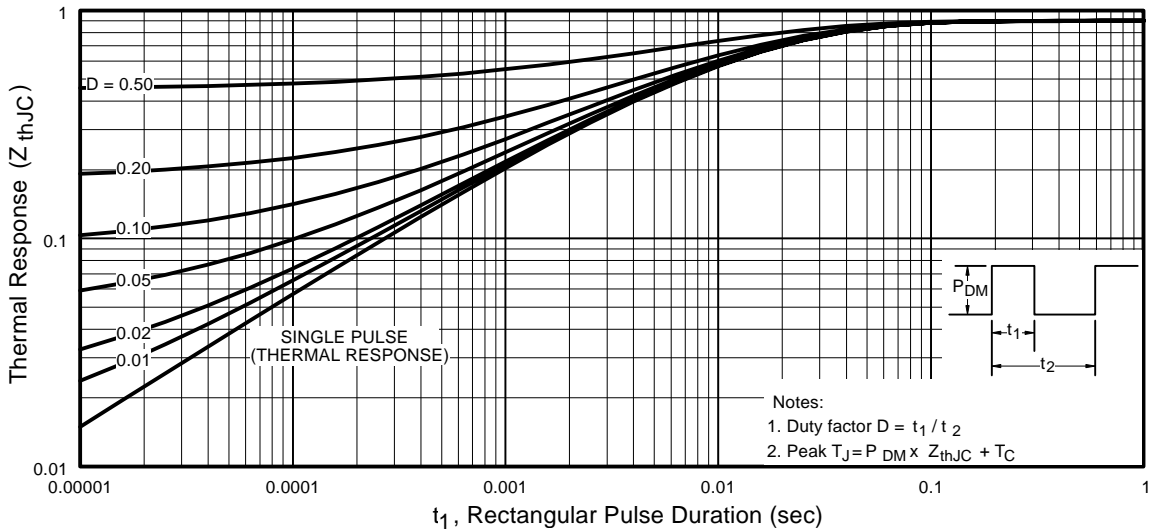

Fig 11. Maximum Effective Transient Thermal Impedance, Junction-to-Case
- ① Repetitive rating; pulse width limited by max. junction temperature. (See fig. 11)
- ② Starting $T_J = 25^\circ\text{C}$, $L = 260\mu\text{H}$